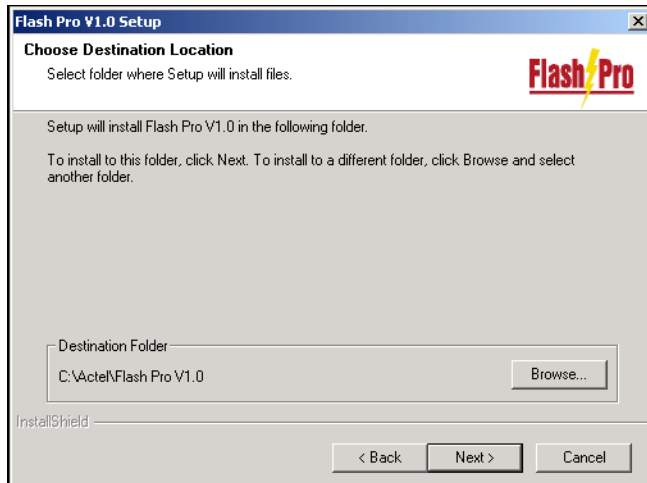

Figure 1-3. Flash Pro Destination
4. **Click *Next* to install Flash Pro to the destination folder, as shown in Figure 1-3.** To install to a different folder, click *Browse* and select another folder. Flash Pro installs to the directory selected.